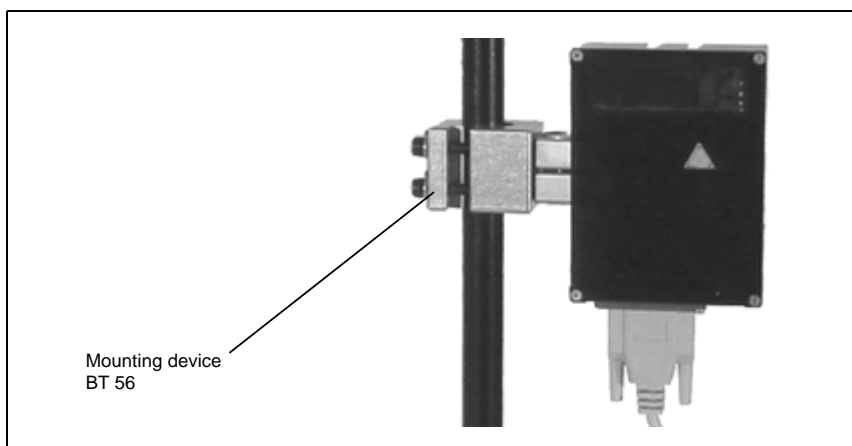

Figure 6.2: Mounting example BCL 40 "stand alone"
- using the dovetail groove and the corresponding mounting accessories (see figure 6.2)